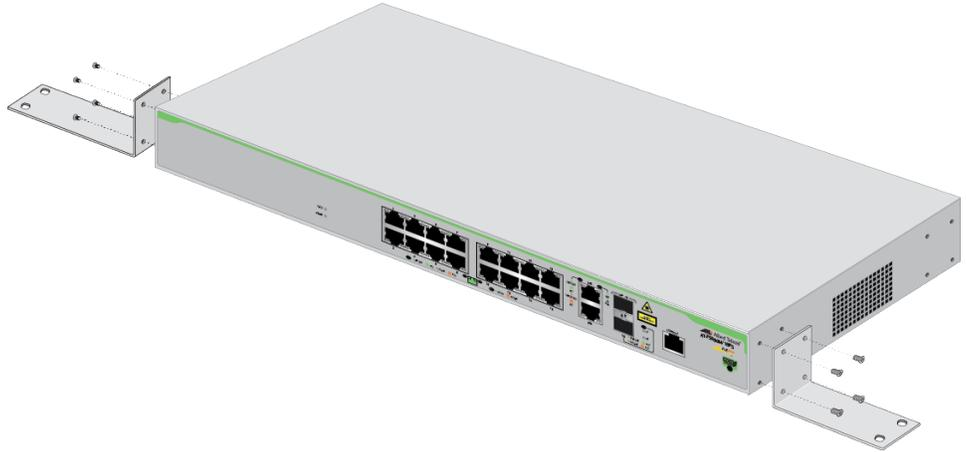

Figure 27. Attaching the Brackets to the Switch
2. Orient the brackets against the sides of the switch and secure them to the switch with the eight screws as shown in Figure 27 on page 53.